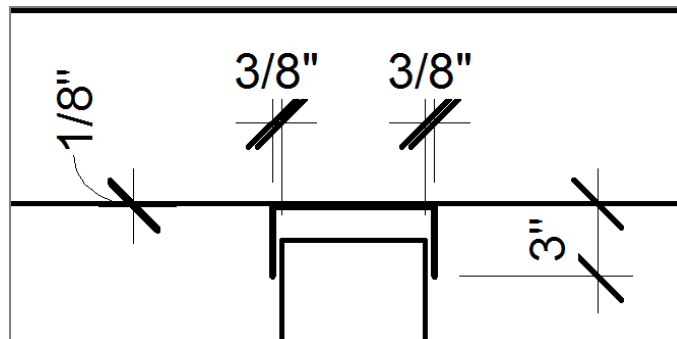

FIGURE 12.59: The top track is now in place.
12. Delete the 3" (75mm) horizontal line. Your detail should now look like Figure 12.59.